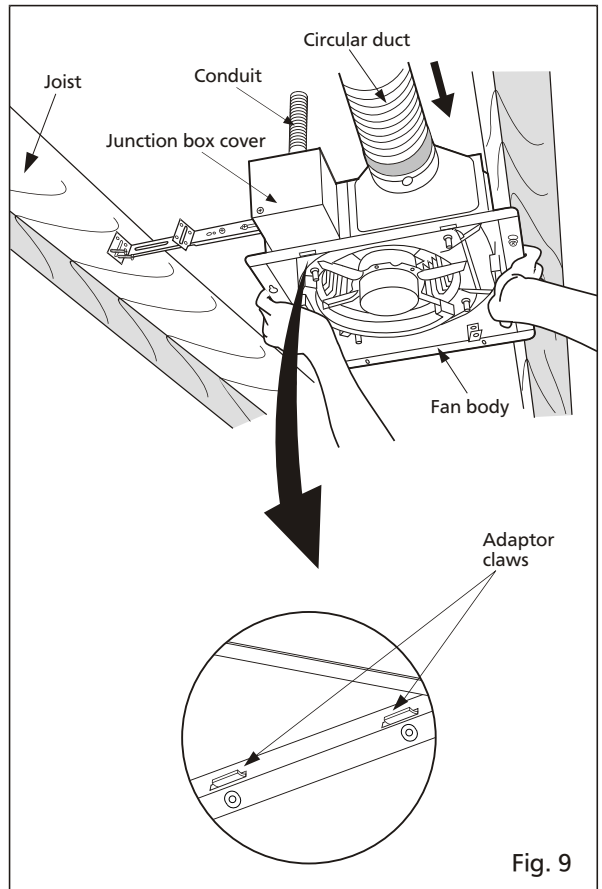

Fig. 9
5. Insert the fan body into joists. (Fig.9)
4. Insert fan body (without blower section) into joists. (Fig. 9)